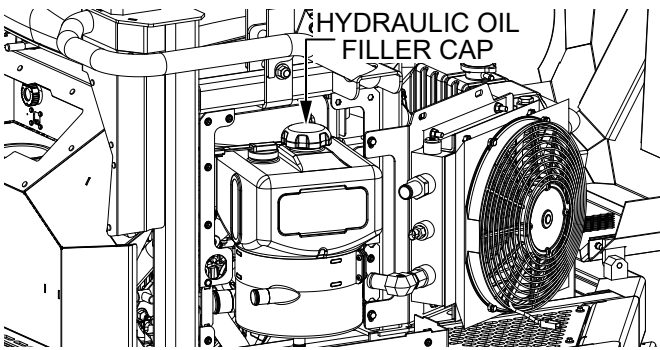

Figure 26. Hydraulic Oil Filler Cap
7. Remove the hydraulic oil filler cap (Figure 26).